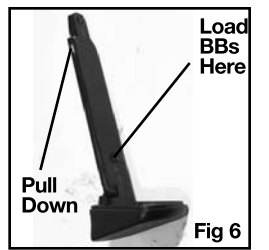

Fig 6 Load BBs Here
- Pull and hold down the BB follower tab on the clip (fig. 6).